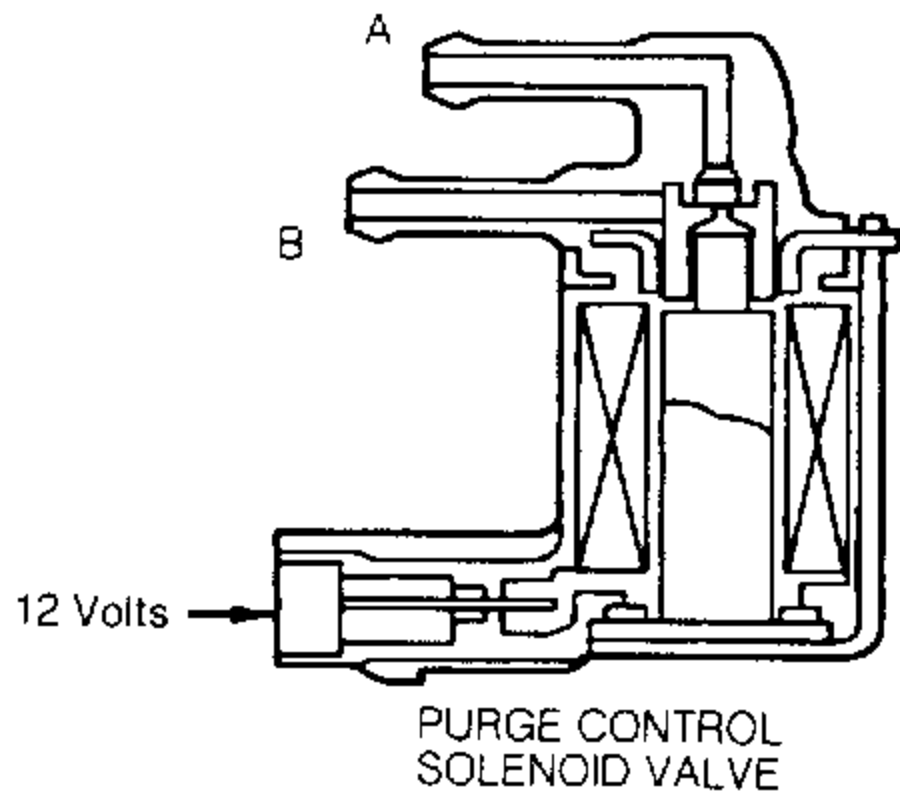

Fig. 1: Testing Canister Purge Solenoid
1. Disconnect vacuum hoses from solenoid. See Fig. 1 . Blow through port "A". Ensure no air exhausts from port "B".